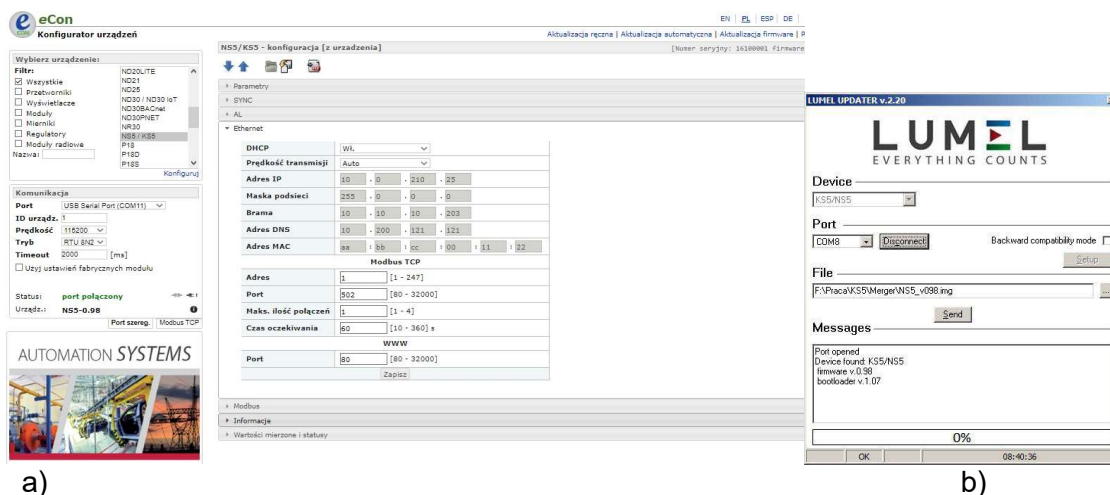

Fig.22. View of program window: a) eCon, b) firmware upgrade
After starting eCon the serial port, speed, mode and meter address should be set in the settings. Then select NS5 meter and click *Configure*. To read all the settings, click the down arrow, then the floppy icon to save the settings to a file (to restore them later). After selecting *Update firmware* (in the upper right corner of the screen) *Lumel Updater* (LU) window will open - Fig. 22 b. Press *Connect*. *Messages* information window contains info about the progress of the upgrade process. When the port is properly opened the display shows: *Port opened*. There are two ways to enter the upgrade mode: remotely through the LU (based on settings in eCon - address, mode, speed, COM port) and by turning on the meter power by pushing the button  (when entering the bootloader mode with the button, communication parameters: speed 9600, RTU8N2, address 1). The display will show boot with bootloader version, and LU program will show the message *Device found* and the name and program version of the connected device. Press the "... " button and select the meter update file. When the file is properly opened the following message is displayed *File opened*. Press *Send* button. After successful upgrade the monitor switches to normal operation, and the information window shows *Done* and the upgrade duration. After closing the LU window, go to *Service Parameters*, select *Set Meter Defaults* and press the *Restore* button. Then press the folder icon to open the previously saved settings file and press the up arrow to save the settings in the meter. The current software version can also be checked by reading the greeting messages of the meter after powering up.